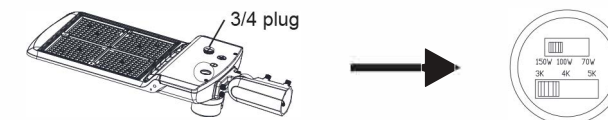

Figure 29
1. Unscrew the 3/4 plug, as shown in the figure 29;